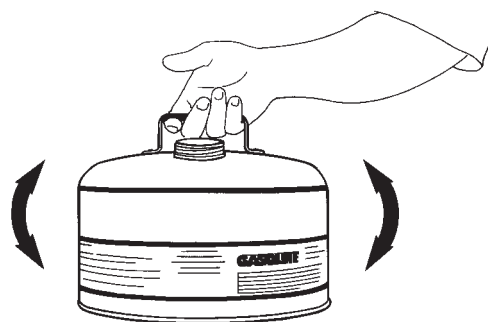

Figure 6
2. Install the cap on the gasoline container and shake to mix the oil and gasoline thoroughly (Fig. 6).